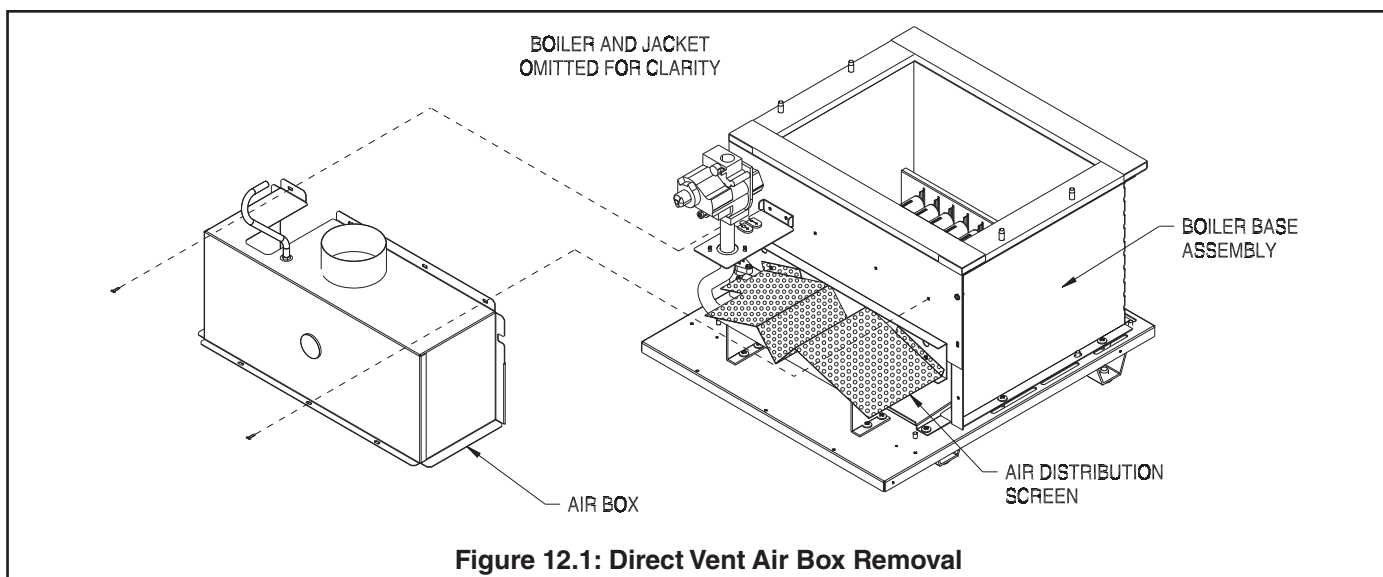

Figure 12.1: Direct Vent Air Box Removal
NOTICE: If the boiler is equipped with a direct vent kit, it will be necessary to remove the air intake box from the boiler in order to access the burners and combustion chamber. This is done by disconnecting the air intake hose and regulator reference hose from the boiler and then removing the mounting screws holding the box in place shown in Figure 12.1.
- Check the air intake system, including the air inlet terminal and air distribution screen (Fig 12.1), for blockages, corrosion, or other deterioration.